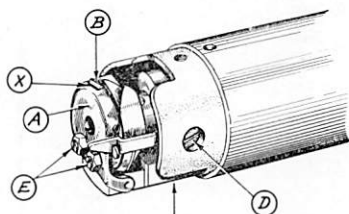

FIG. 1
Remove Screws (A) (B) and (C) Fig 1 and take off Face Plate and Latch Sleeve.
The clearance between Bobbin Holder (A) and Bobbin (B) at (X) (See Figs. 1 and 1A) should be approximately  $\frac{1}{32}$  of an inch.
To adjust clearance, loosen Set Screw (C) (nearest one towards operator of three Set Screws on underside of Yoke Casting) Fig. 1 and turn Eccentric Screw (D) right or left until the desired clearance is obtained. Then tighten Set Screw (C) securely.
The amount of clearance between the inside crowned ends of Adjusting Screws (E) and Bobbin (B) at (XX) (See Figs. 1 and 1A) should be just sufficient to allow the thread to pass between them. To adjust, loosen Lock Nuts and turn Adj. Screw (E) until it tightens on Bobbin Case - then loosen about  $\frac{3}{4}$  of a turn - hold in position with screw-driver and tighten Lock Nuts.